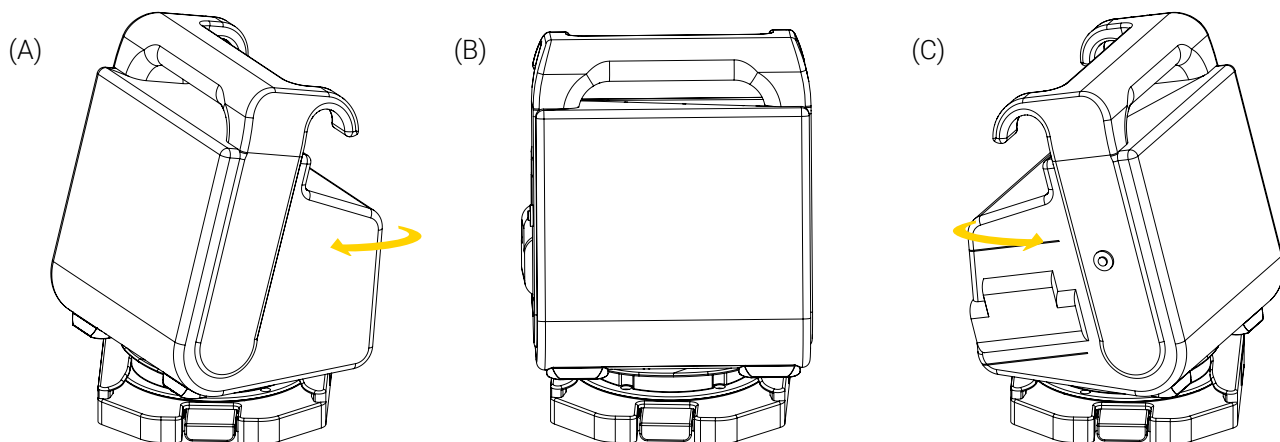

Figure 7: Operating the Bracket Pro Serie 25 WOB - FL
3. Turn the support bracket clockwise or counterclockwise (Figure 7), to the desired position when needed.